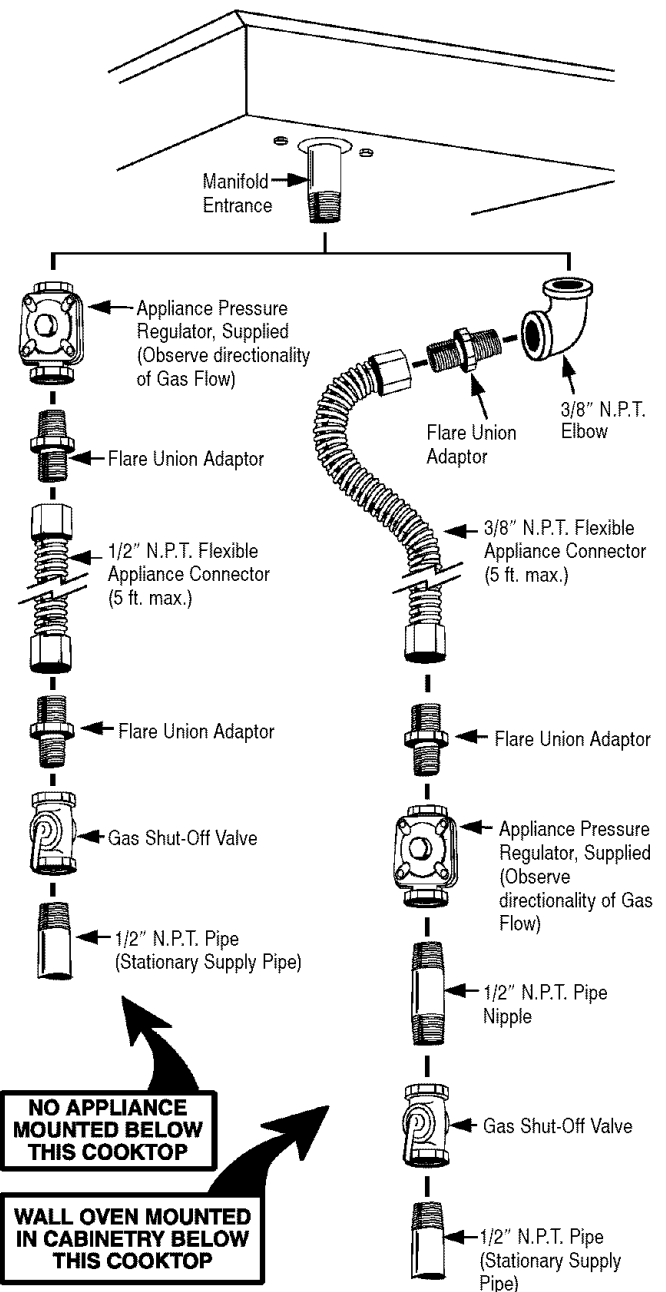

FIGURE 5
- If the alternative piping method shown in figure 5 is selected for the installation, no union is required. (The flexible appliance connector illustrated provides the union joints necessary for servicing.) When a dividing wall is present and a flexible connector is used it is recommended for convenience, in both installation and service, the flexible connector, itself, pass through the dividing wall. **Any flexible connector used with this appliance must satisfy all requirements stated in the text accompanying figure 5.**
Unless prohibited by local codes or ordinances, a new A.G.A. - Certified, flexible metal appliance connector may be used to connect this appliance to its gas supply. The connector must be no more than 5 feet in length. Per figure 5, use appropriate flare union adaptor at each end of the flexible connector. If a flexible connector is used assure that both the appliance pressure regulator and manual shut-off valve are joined solidly to other permanent hard piping (either gas supply or the appliance manifold) so as to be physically stationary. See illustrations below: